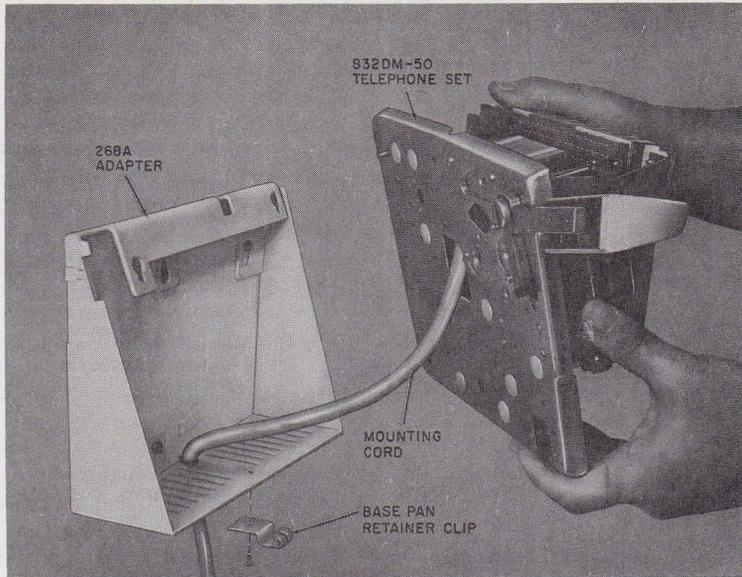
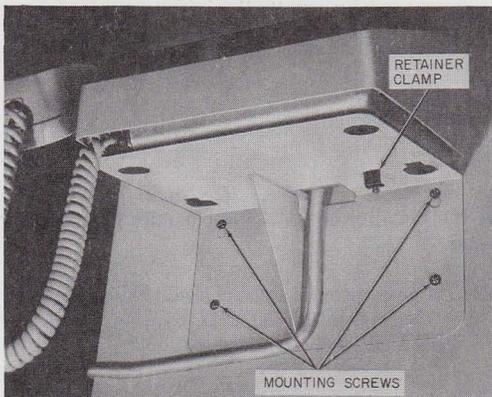

Fig. 27—Installation of 832DM-50 Wall Telephone Set
Fig. 28—Shelf for Wall Mounting COM KEY Telephone Set (D-180656 Kit of Parts)
3.14 Where a wall-mounted telephone is desired, install either a wall-type set (832/2832DM or EM) or a D-180656 kit of parts for converting desk sets to wall sets. The method of mounting wall-type sets is illustrated in Fig. 27. The D-180656 kit of parts (Fig. 28) consists of a mounting shelf and a telephone set retaining clamp. Install the mounting shelf using appropriate fasteners for the surface on which it is to be mounted. Insert the telephone set mounting cord down through the opening at the rear of the shelf. Insert the retaining clamp (screw down) through the slot of the shelf, up into the base of the telephone set. Check that the pads on the telephone set base fit in the slots in the shelf and tighten the retaining clamp until the telephone set is held firmly in place.